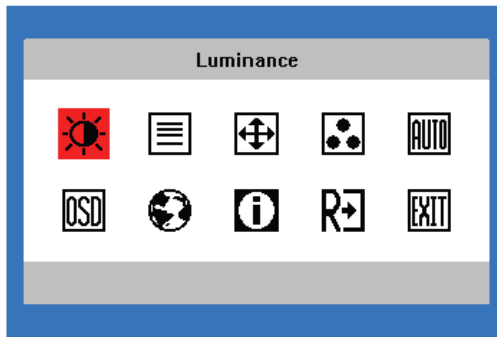

Figure 4 The OSD Message
1. Press the MENU-button to activate the OSD window (Figure 4).